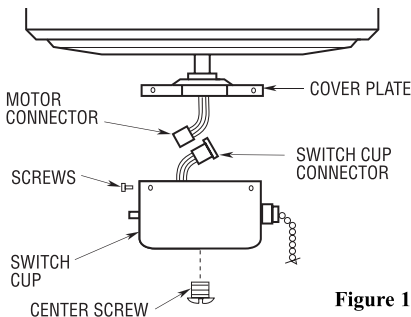

Figure 1
3. Remove the three screws around the side of the switch cup (Figure 1).
4. Remove the center screw from the switch cup (Figure 1).
5. Disconnect the motor connector from the switch cup connector (Figure 1).